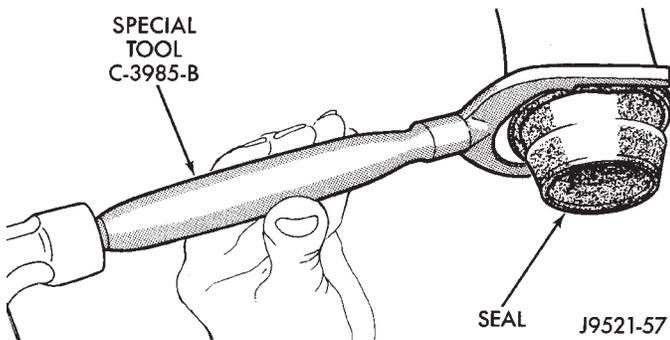

Fig. 29 Removing Overdrive Housing Yoke Seal
- (1) Raise vehicle.
- (2) Mark propeller shaft and axle yoke for alignment reference.
- (3) Disconnect and remove propeller shaft.
- (4) Remove old seal with Seal Remover C-3985-B (Fig. 29) from overdrive housing.